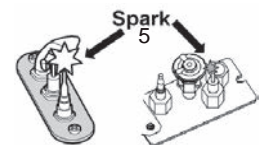

Fig 3
2. TO CLEAR ANY GAS, turn main valve off by pressing the  button on remote handset (1). Wait five (5) minutes to clear out any gas, then smell for gas, including near the floor. If you smell gas, STOP! follow "B" in the safety information above on this label. If you don't smell gas, go to the next step.
3. AUTOMATIC IGNITION: MAN-knob (2) in ON position. Ensure Flame Adjustment knob (3) is set to lowest setting (Fig. 1). Locate the pilot (Fig. 3.) inside the firebox.
With the window off, locate the pilot (Fig. 3) inside the firebox. Set Flame Adjustment knob (3) to the lowest setting. Push down the metallic core (4) with a pen or similar instrument; this will establish the pilot gas flow. Light gas at the pilot (5) with a match.